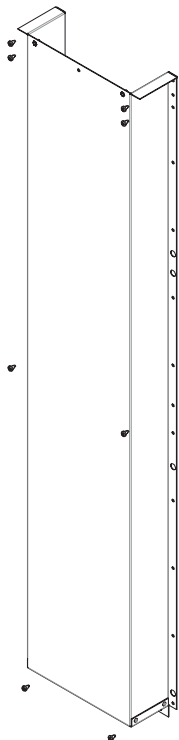

Figure 74. Screws for the vertical duct and bottom plate
b) Insert screws in the vertical duct (6 Torx M6x20 screws) and in the bottom plate (5 Torx M6x12 screws), and tighten them as shown in Figure 74.